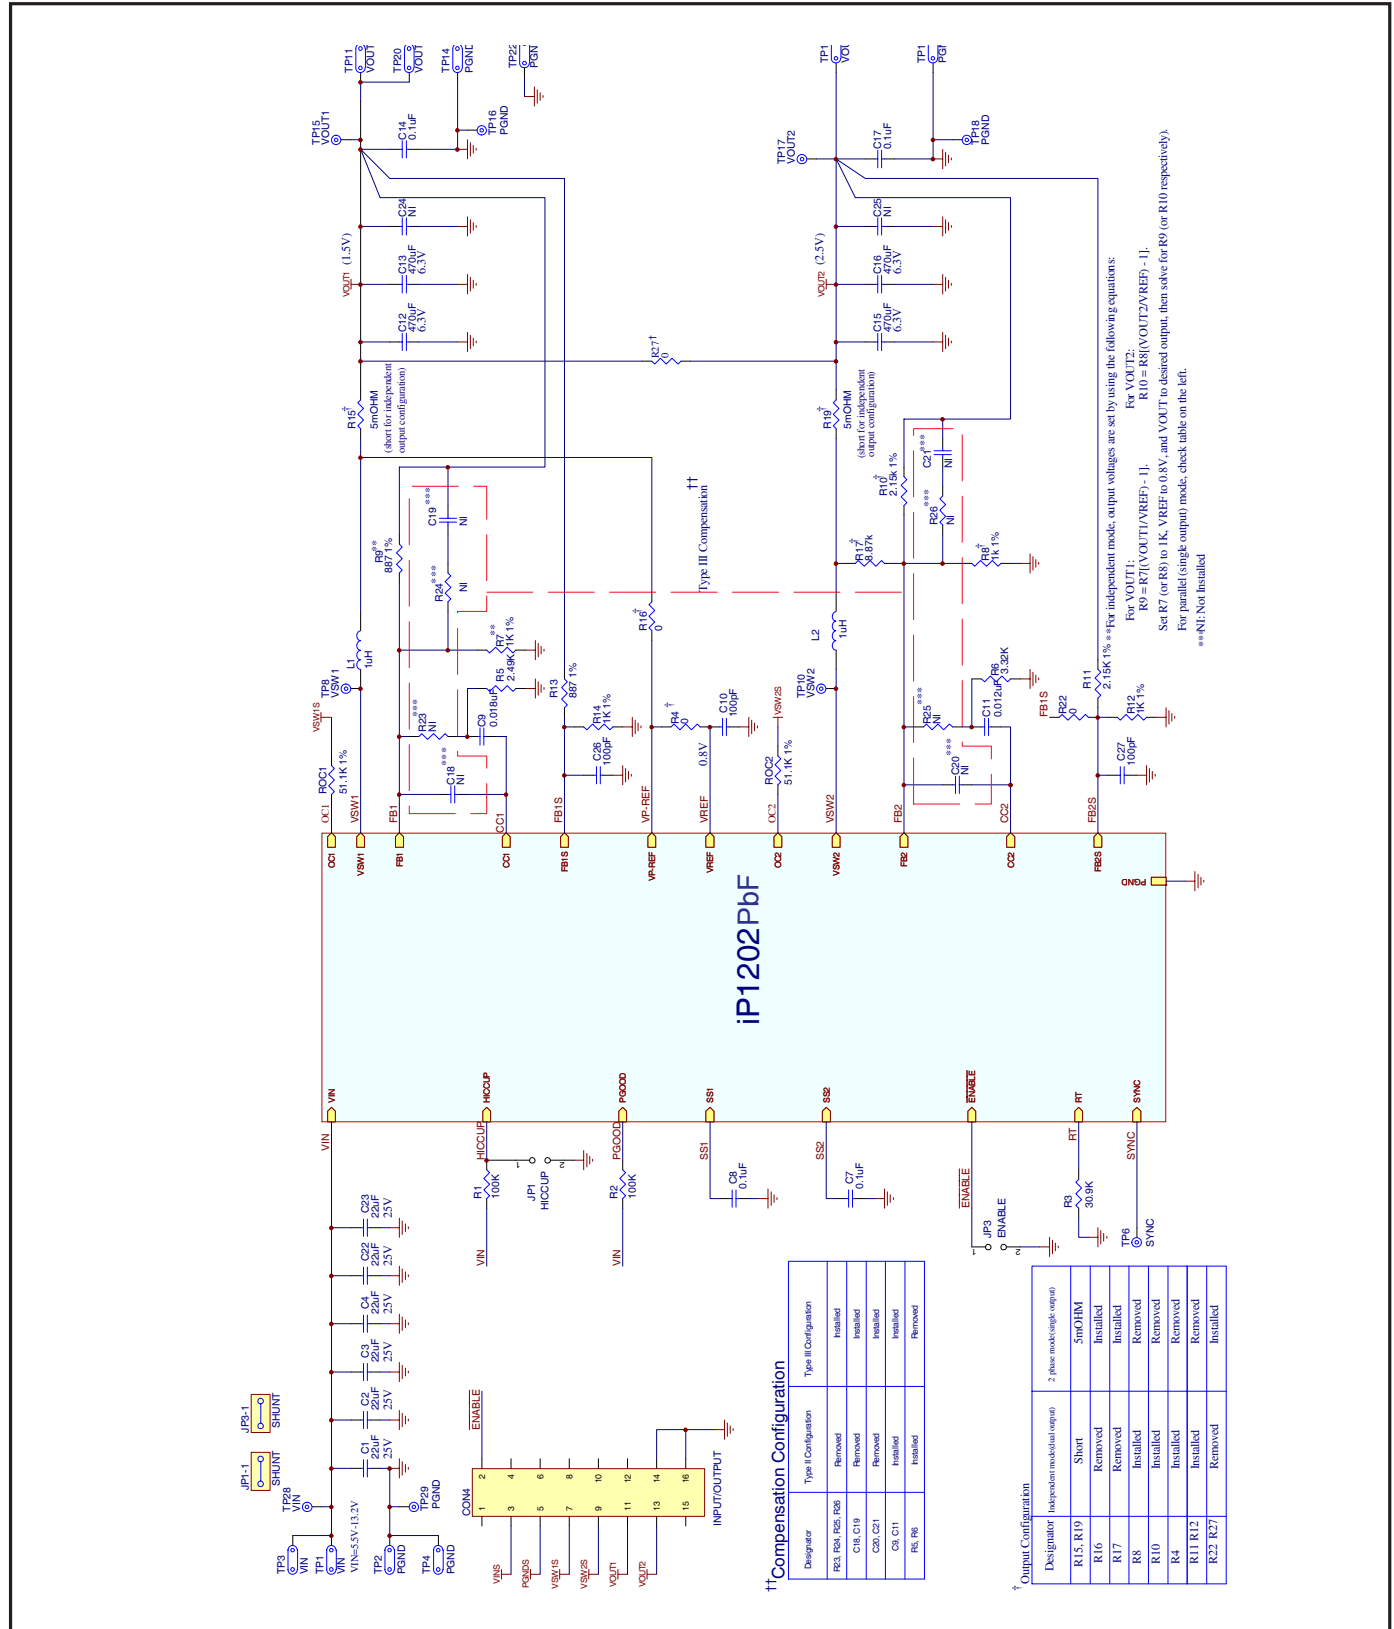

Fig. 32: Reference Design Schematic
1. Follow the layout scheme presented in Fig. 32. Make sure that the output inductors L1 and L2 are placed as close to iP1202PbF as possible to prevent noise propagation that can be caused by switching of power at the switching node  $V_{sw}$ , to sensitive circuits.